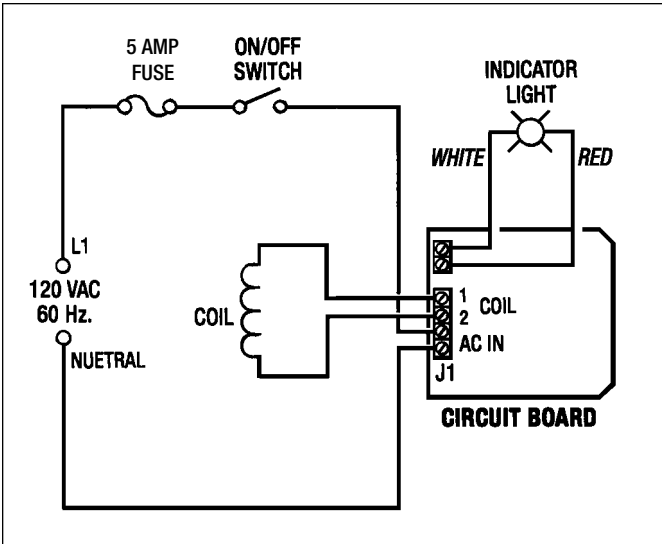

Figure 5.1 - Test Set-Up Electrical Schematic
3. Remove the cover from the Electric Box (#405) and with a similar Test Set-up which is shown in *Figure 5.1*, apply 120 VAC to the Terminal Strip J1 on the Circuit Board (#400). This will release the brake stack.
Provisions for manual operation checks must be made if the drive unit has been removed for service and repair. 120 VAC, 60 Hz. electrical service is required to energize the coils. (See Figure 5.1 below for the Test Set-Up)
5. Remove the cover from the Electric Box (#405) an with a similar Test Set-Up, as shown in Figure 5.1, apply 120 VAC to the (2) “AC In” terminals on the Terminal Strip J1. This will allow the brake stack to drop down.
7. Install the (3) Flat Washers (#193), (3) Lockwashers (#128) and (3) Hex Nuts (#165) back on the Driver Pins (#195). **Torque to 7 Ft. Lbs.**